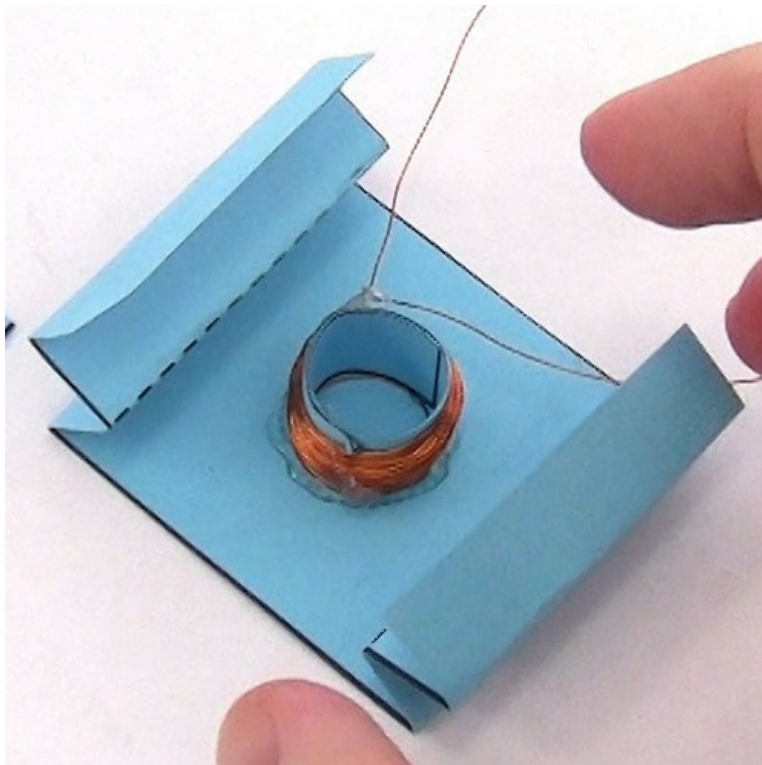

Figure 12. Coil glued to center of accordion piece.
11) Glue the coil to the dashed circle on the accordion piece (Figure 12). Allow the glue to dry.